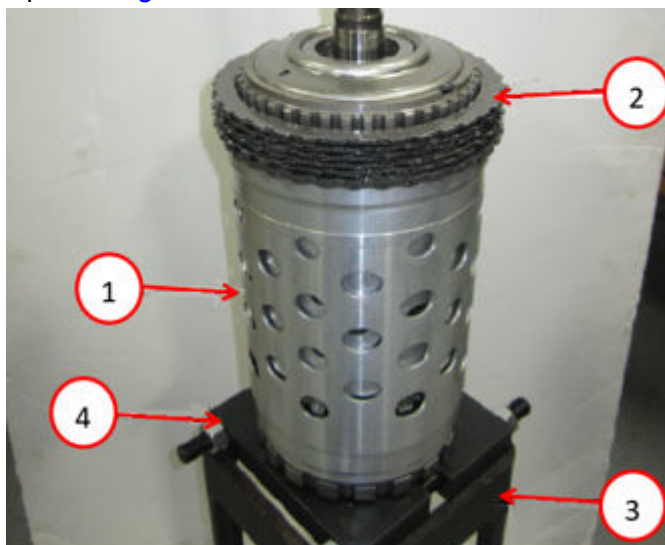

Fig. 34
50. Install the B clutch discs and plates Fig. 34.